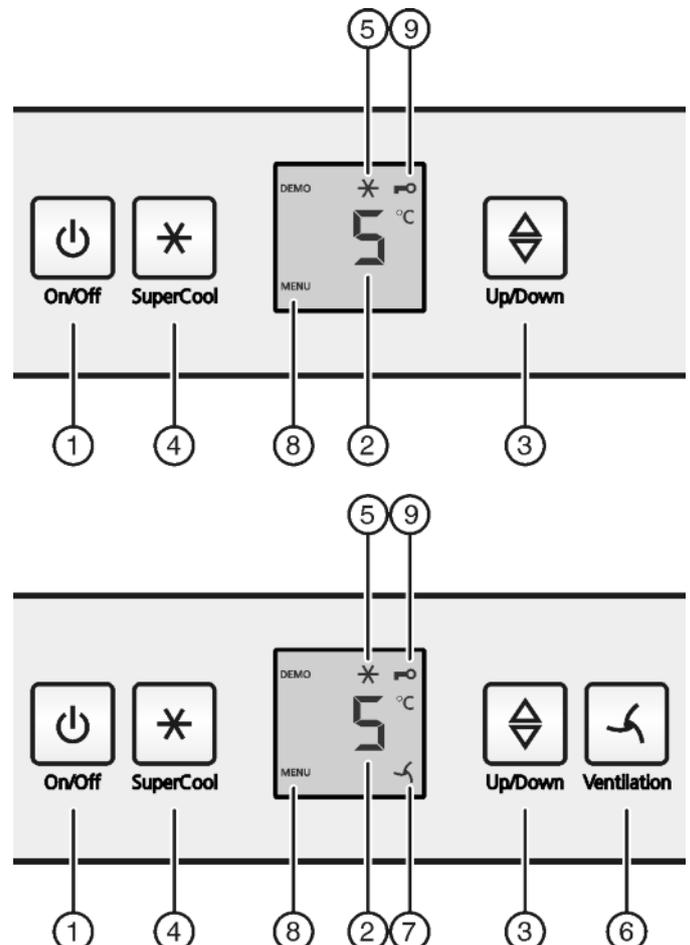

Fig. 2
- ▶ Press the On/Off button *Fig. 2 (1)*.
- ▶ Press the SuperCool button *Fig. 2 (4)* for about 5 seconds.
- ▷ The Menu symbol is shown on the display, *Fig. 2 (8)*.
- ▶ Confirm briefly with the SuperCool button *Fig. 2 (4)*.
- ▷ The child lock symbol, *Fig. 2 (9)*, lights up on the display.
- ▶ Briefly press the On/Off button *Fig. 2 (1)*.
- ▶ Call up temperature function: press the setting button *Fig. 2 (3)*.
- ▶ Change the temperature in 1 °C steps: Press the setting button *Fig. 2 (3)* until the required temperature is indicated in the temperature display.
- ▶ Briefly press SuperCool button *Fig. 2 (4)*.
- ▷ The SuperCool symbol *Fig. 2 (5)* lights up in the display.
- ▷ The SuperCool symbol *Fig. 2 (5)* goes out in the display.
- ▶ Briefly press the fan button *Fig. 2 (6)*.
- ▷ The fan symbol *Fig. 2 (7)* shines.